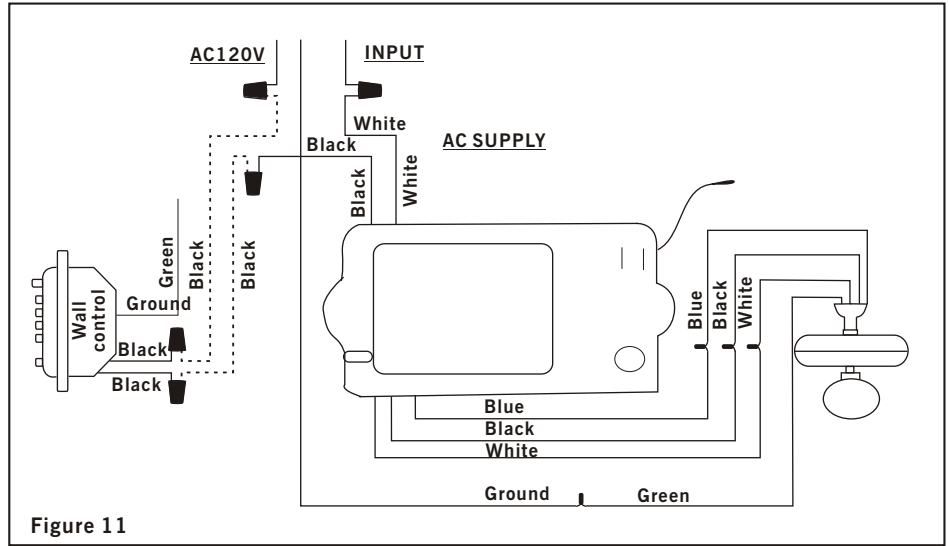

Figure 11
**Step 2.** Make the electrical connections as shown in (Fig. 11). If your outlet box has a ground wire (green or bare copper) connect the wall transmitter's ground wire to it; otherwise connect the wall transmitter's ground wire directly to one of the screws from the outlet box.